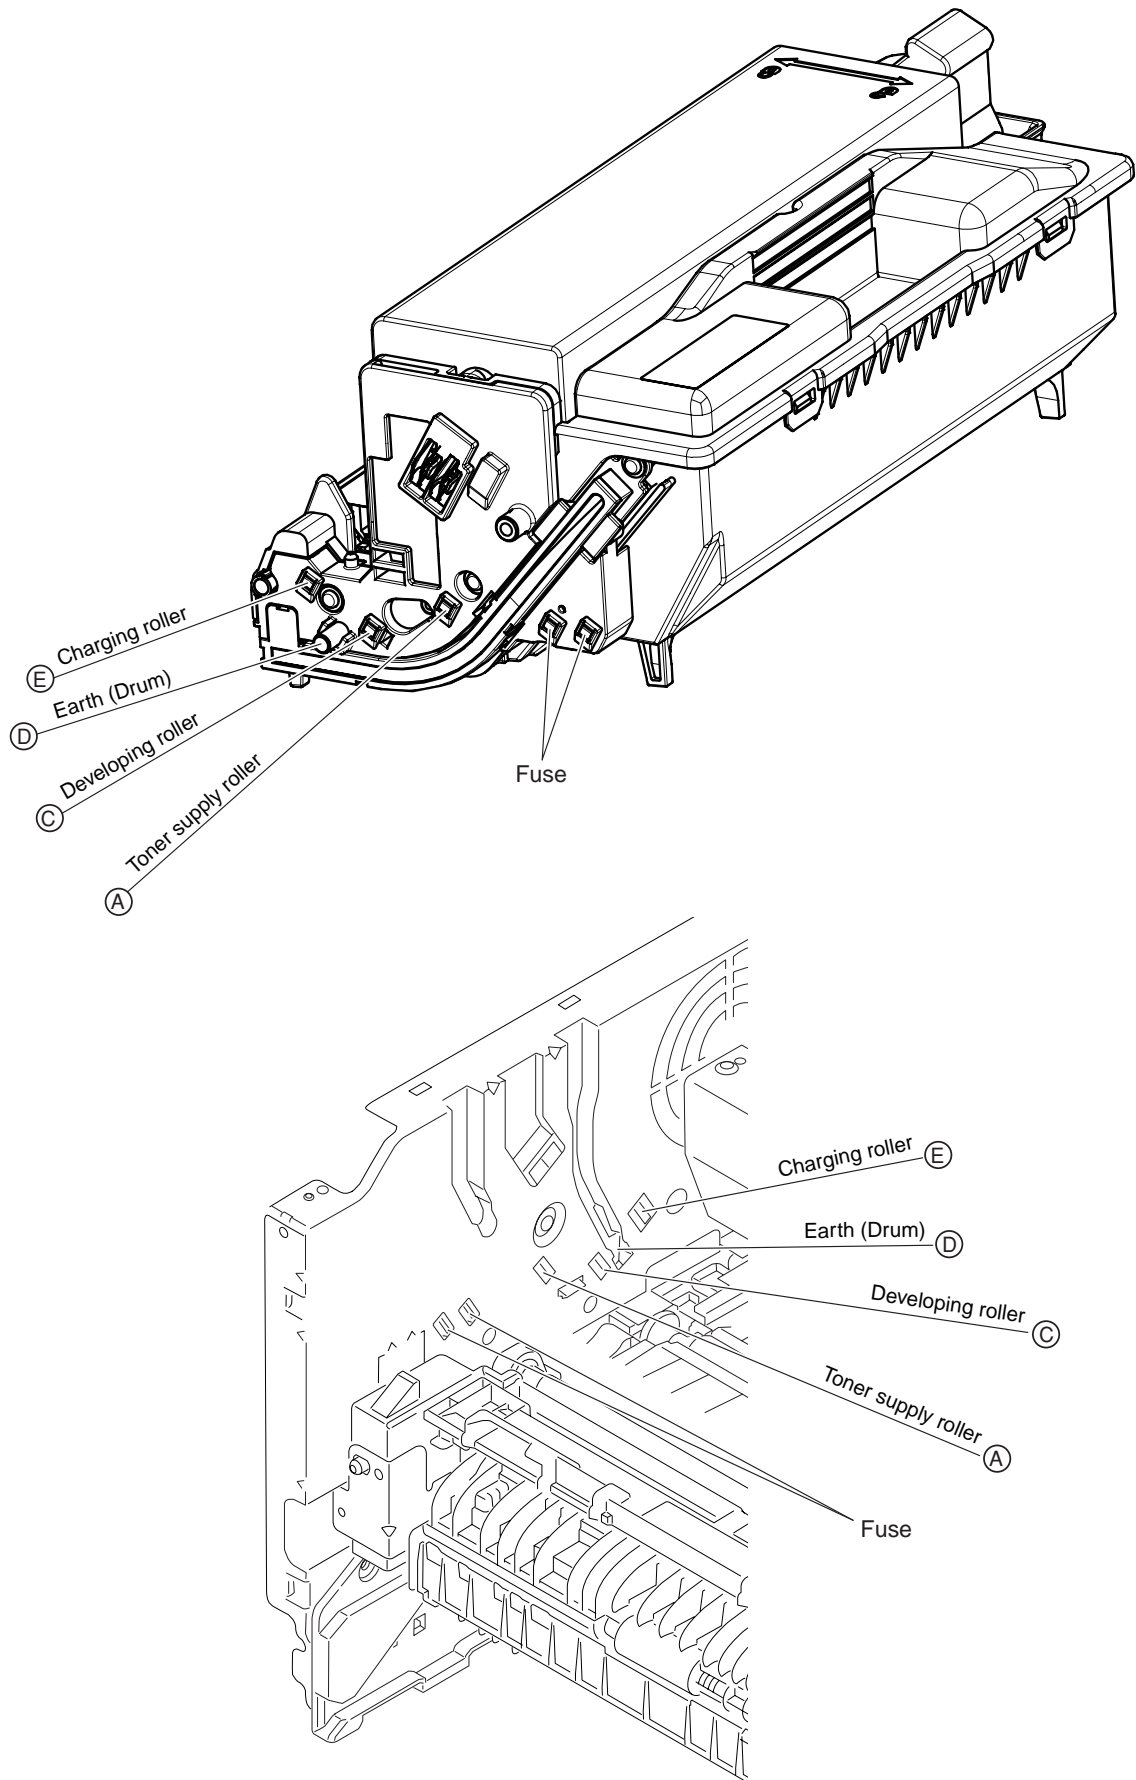

Figure 6-3
- ▼ Yes Are the contact of the developing roller and toner supply roller of the image drum cartridge appropriately connected to the contact assembly? (See Figure 6-3 (A) and (C))